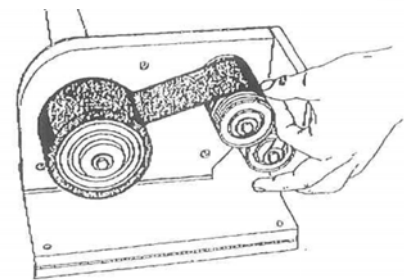

Figure 2
- 3) Adhere the tape to the Top Knurled Roller on the machine. See Figure 2